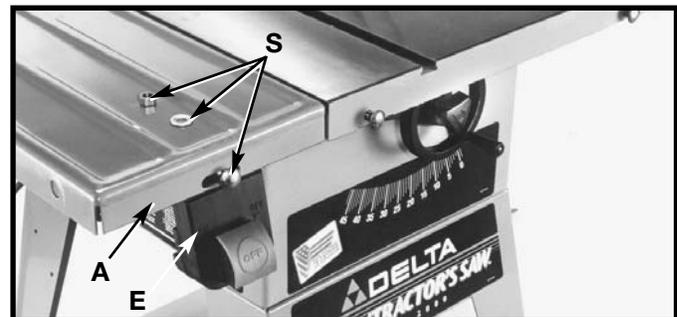

Fig. 40
3. Loosely assemble switch bracket (E) Fig. 40, to the rear of extension wing (A) and fasten with 3/8-16 x 1" long carriage head bolt through hole, then add flat washer, and hex nut (S). **Tighten after fence rail is assembled.**